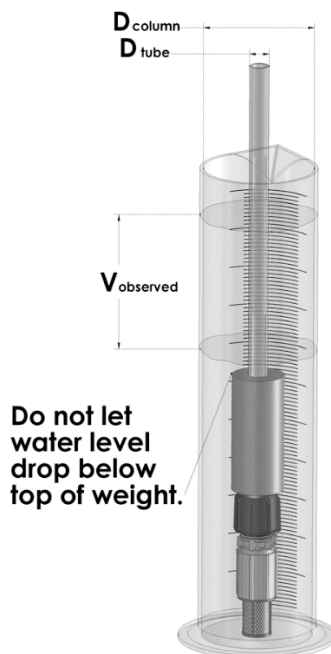

Figure 27: Graduated Cylinder
1. Prepare a device for accurately measuring volume such as a graduated cylinder or a scale sensitive to 1 gram. If using a graduated cylinder, make sure the fluid surface area remains constant during calibration, e.g., the fluid remains above the foot valve weight as shown in Figure 27.
8. Take the final reading of fluid volume in ml. If using a scale, divide the difference between beginning and ending weights in grams by the specific gravity of the chemical solution being pumped. If using a graduated cylinder with a foot valve inserted (Figure 27), the readings will need to be adjusted to compensate for the presence of the suction tubing using the following formula: